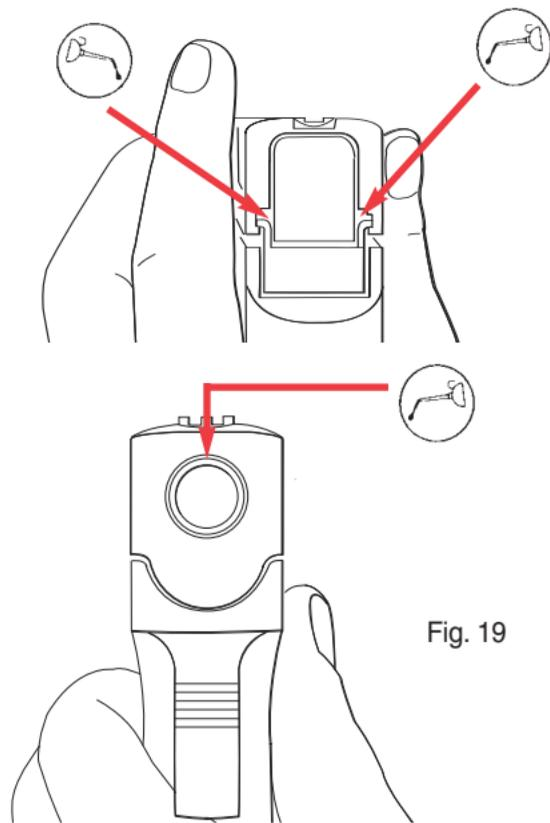

Fig. 19
After cleaning the frame, slide and barrel, use a soft cloth to apply a light coating of a premium lubricant to the slide and wipe clean. There are **three (3)** lubrication points where a single drop of lubricant should be applied (See Figure 19). This will assure proper lubrication of the pistol. Care should be taken not to over-lubricate your pistol. Excess lubricant can collect large quantities of unburned powder and carbon residue, which could interfere with the proper functioning of the pistol.